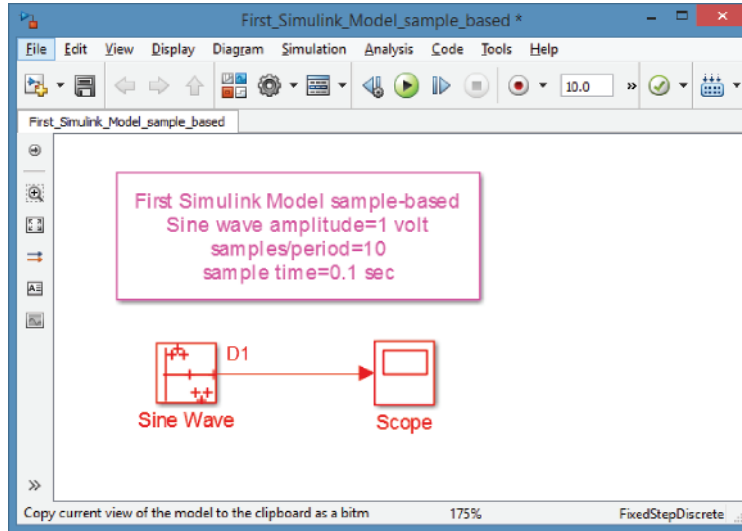

Figure 1.19 First Simulink Model Modified for Sample Based computation.
**per period** is set to 10. Figures 1.19 and 1.20 display, respectively, the sample-based model and the **Sample Time Legend** resulting from the change. The color red in the blocks and data line indicates that the output from the **Sine Wave** block is a discrete vector with 0.1 s time steps and the magenta color shows **inf** corresponding to an infinite associated time.